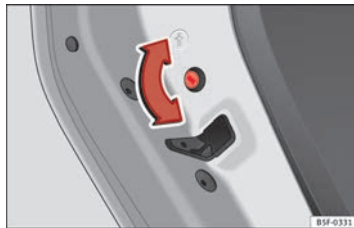

Fig. 53 Childproof lock on the left hand side door.
- With the door open, rotate the groove in the door using the ignition key, clockwise for the left hand side doors ⇒ Fig. 53 and anti-clockwise for the right hand side doors.
- With the door open, rotate the groove in the door using the ignition key, anti-clockwise for the left hand side doors ⇒ Fig. 53 and clockwise for the right hand side doors.